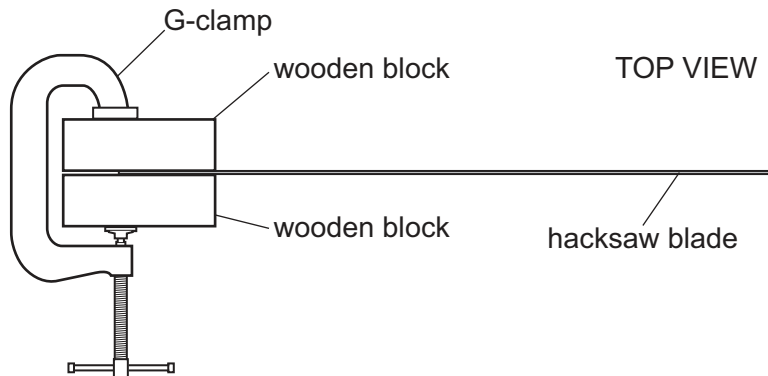

**Figure 2.1**
**(a) (i)** • Clamp the hacksaw blade between the two wooden blocks as shown in Figure 2.1.